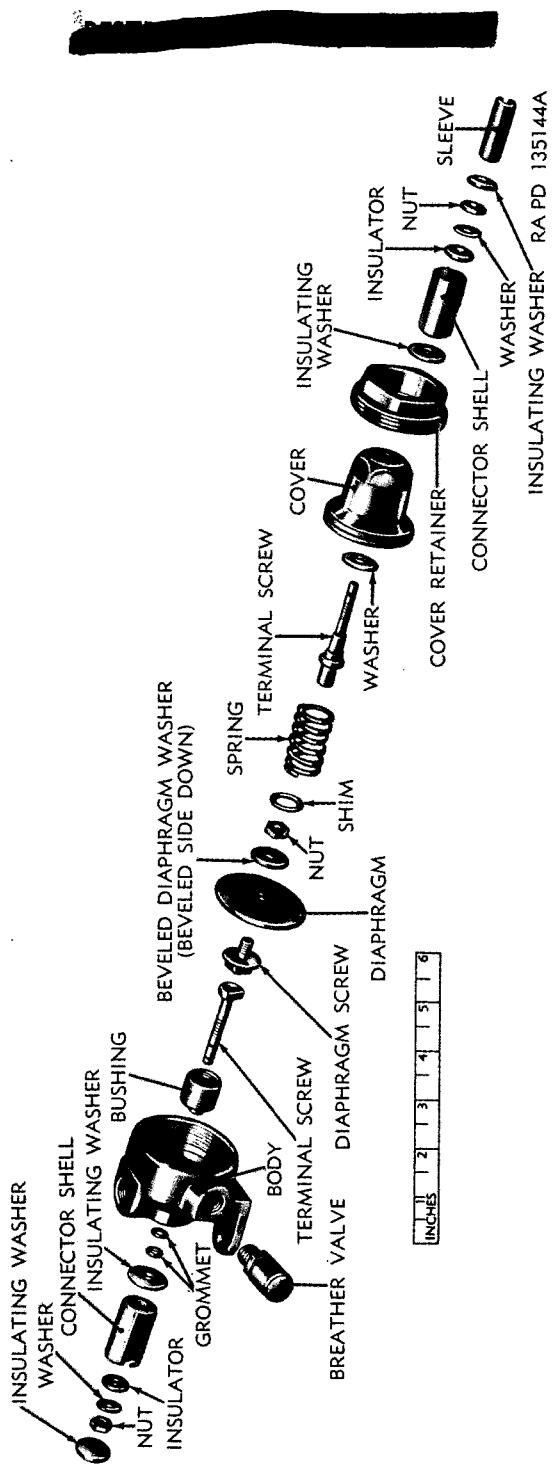

Figure 223. Type LP-2 low pressure warning switch (waterproof)—exploded view.
- (3) *Type LP-2 (waterproof)* (fig. 223). Place plain washer over upper terminal screw and insert screw through cover. Place insulating washer over screw and install connector shell. Place insulator over screw and insert in hole in bottom of shell. Place plain washer over screw and secure shell with nut and a second nut as lock nut. Place insulating washer on lock nut and install sleeve